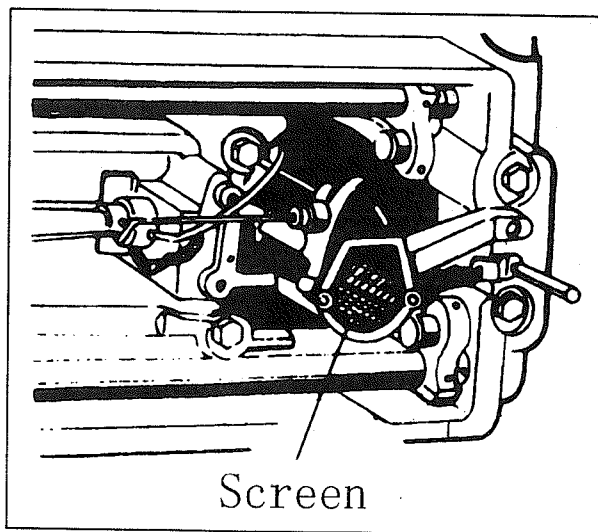

Fig. 33
3) Cleaning oil pump, screen (See Fig.33)